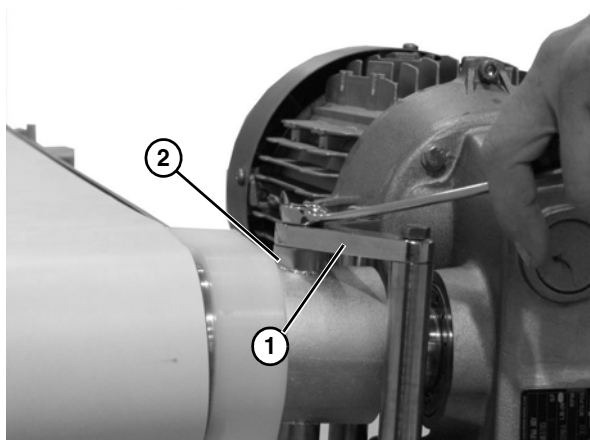

Figure 5
3. Attach the top gearhead mounting bar (**Figure 5, item 1**) to the motor mounting bracket (**Figure 5, item 2**).